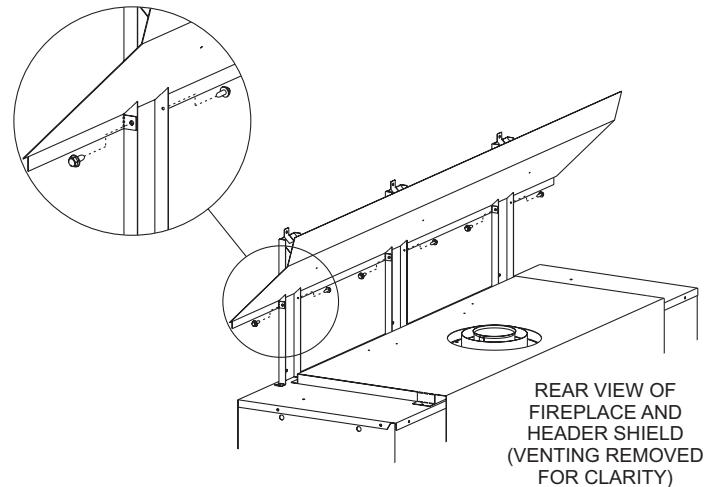

**Figure 26**
- The Header Shield and (3) Top Standoffs are shipped with the fireplace. Pre-assemble the Header Shield to the Top Standoff brackets, before installing to the top of the fireplace and framing header. **See Figures 26, 27 and 28.**